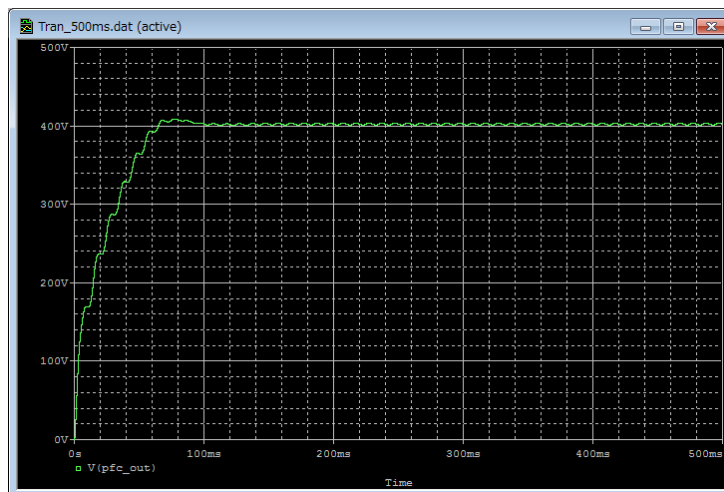

Figure 5.10 Simulation waveform view (Example: Output voltage waveform)
3. Then, its waveform appears in the graph window of PSpice A/D as shown in Figure 5.10.